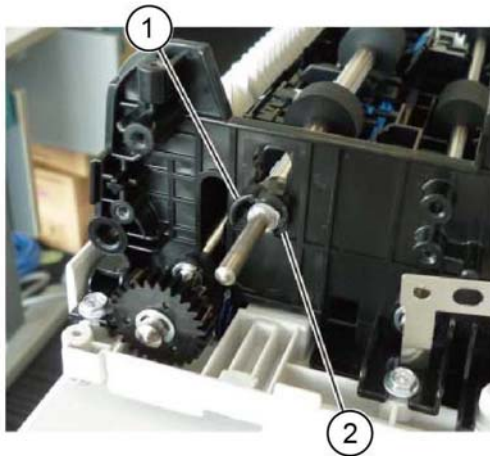

Figure 8 Bearing removal
14. Remove the front bearing, **Figure 8:**
- a. Remove the KL-clip (1).
- b. Remove the bearing (2).